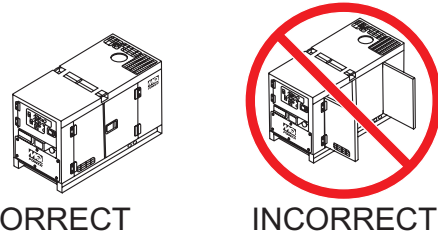

Figure 40. Engine Enclosure Doors
6. Close all engine enclosure doors (Figure 40).